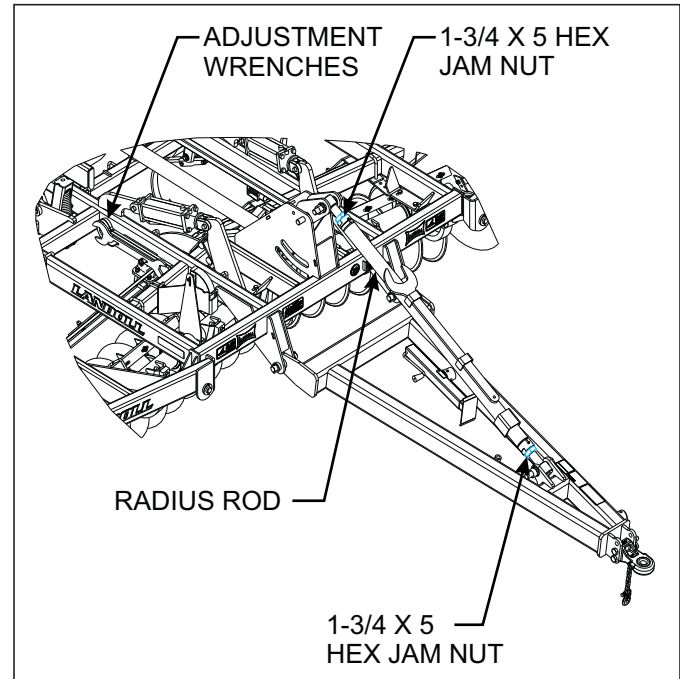

Figure 4-10: Radius Rod Adjustment
2. To adjust the Finisholl hitch height, loosen the locking jam nuts on each end of the adjustable radius rod located above the hitch **See Figure 4-10.** Wrenches are stored on the center frame and radius rod to make this adjustment. Extend or retract the radius rod to obtain the desired hitch height.